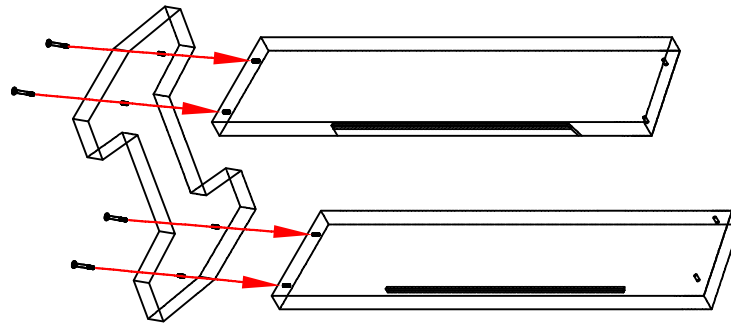

Figure 2
- B) Using the provided screwdriver, attach the Base to the Wood Sides with (4) Long Flat Head Screws as illustrated in Figure 2.